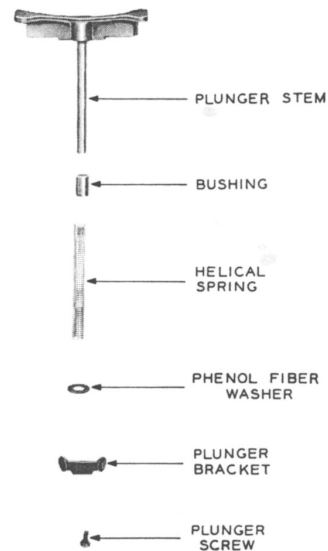

FIG. 6 — PLUNGER ASSEMBLY
- 4.04** When replacing plunger assembly, the phenol-fiber washer must be placed on the plunger stem prior to the plunger bracket (see Fig. 6).